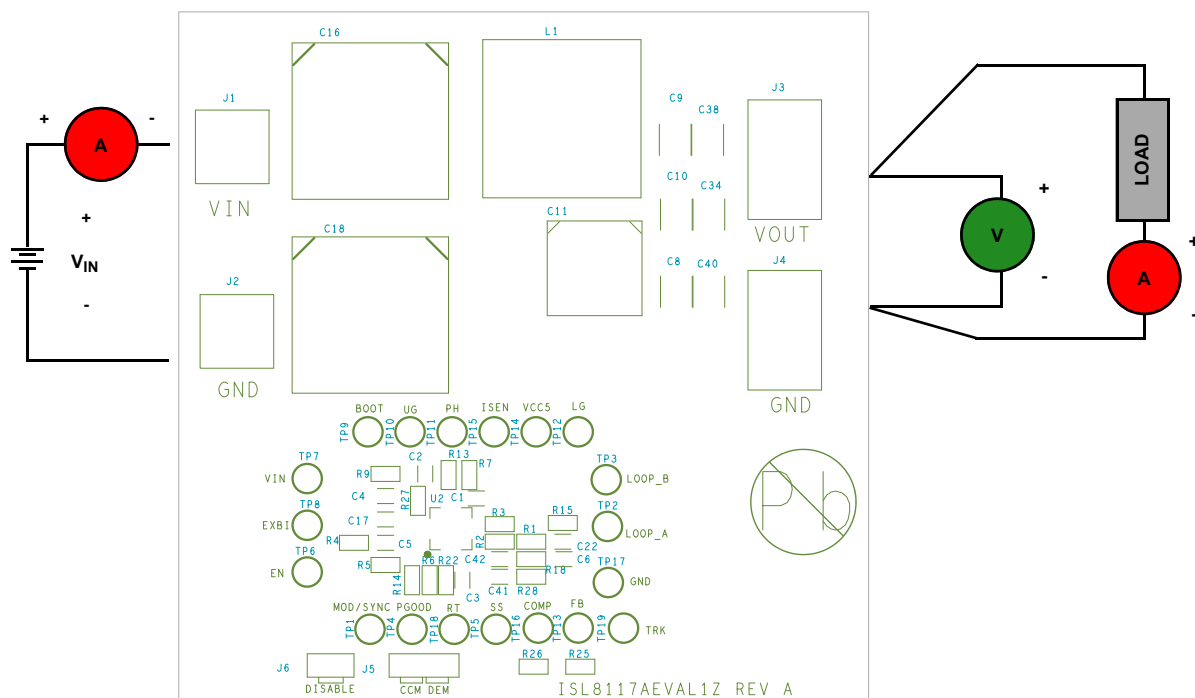

FIGURE 3. PROPER TEST SET-UP
1. Jumper J5 provides the option to select CCM or DEM. Please refer to Table 2 for the desired operating option. Ensure that the circuit is correctly connected to the supply and electronic loads prior to applying any power. Please refer to Figure 3 for proper set-up.
As shown in Figure 3 on page 3, 18V to 60V  $V_{IN}$  is supplied to J1 (+) and J2 (-). The regulated 12V output on J3 (+) and J4 (-) can supply up to 20A to the load. Due to the high thermal efficiency, the evaluation board can run at 20A continuously without airflow under room temperature ambient conditions.